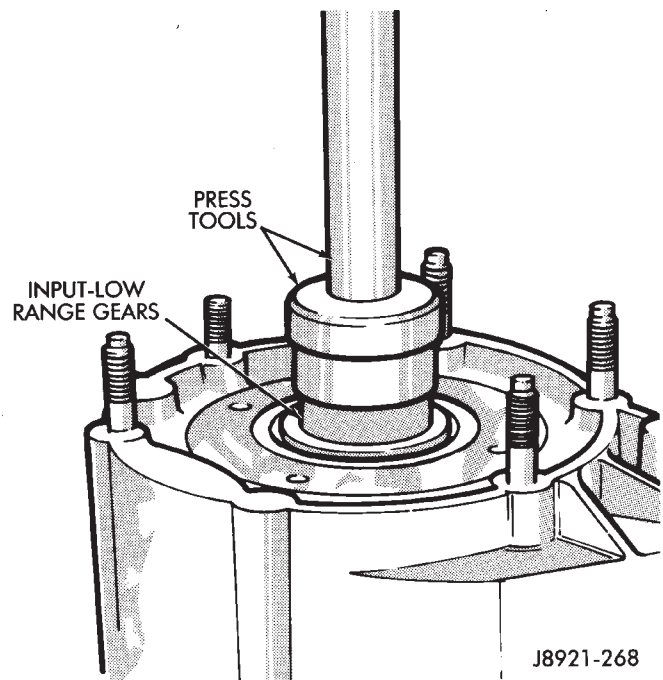

Fig. 30 Removing Input And Low Range Gears
(44) Press input and low range gears out of input gear bearing and case (Fig. 30). Use suitable size driver tool to press gears out of bearing and case.